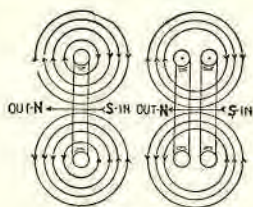

Fig. 7C
Polarity of a helix or solenoid: In Fig. 7C, one coil of wire is cut in half to make the explanation clearer, because the point we wish to arrive at is the advantage of the lines-of-force joining and passing around all of the turns of wire of the coil, which is to make one end of the coil (N) pole, and the other end (S) pole.